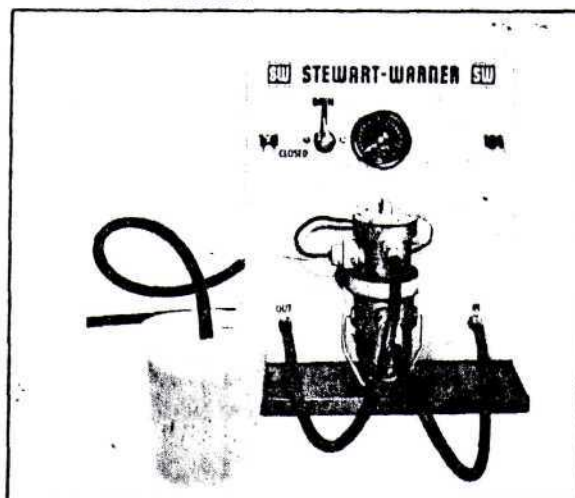

FIGURE 22
1. Place fuel pump on a 650-B Test Fixture (Figure 22) or other suitable fixture if available. With the lower or intake part connected to a fuel supply, connect a pressure gauge and a bleeder valve to the discharge or top part of the pump.
2. To increase pressure, loosen the regulator lock nut (5/8" open end or box wrench) and using a screwdriver, turn the regulator adjusting screw clockwise (Figure 22).
3. To decrease pressure, turn regulator adjusting screw counter-clockwise (Figure 22).
Observe the time required to expel one pint of fuel into a suitable container as illustrated in Figure 22.